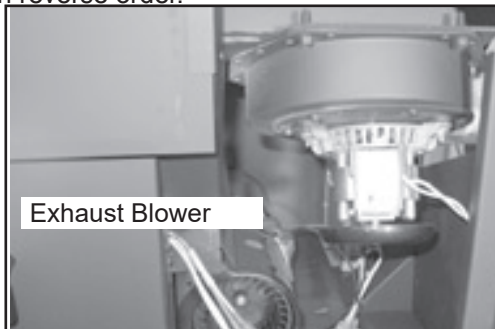

Figure 25.1
4. There is a removable plate on the exhaust blower. Depending on the model, use a 1/4 inch socket, or 1/4 inch Nut Driver or #2 Phillips Head screw driver to loosen the 6 screws in the keyhole shaped holes and rotate the plate. It is only necessary to loosen screws (**Figure 25.1**).
3. Snap disc #3 is located on the bracket on the feed tube near the feed motor (**Figure 25.1**).